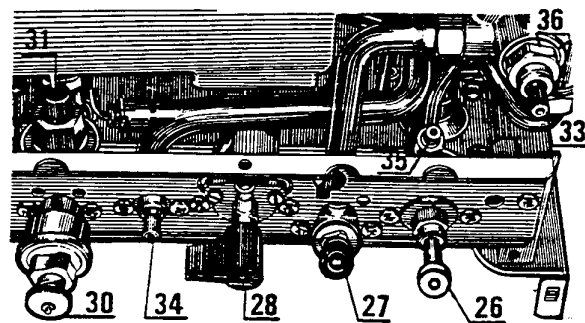

Fig. 16
- Turn off the gas by turning lever (28) (fig. 16).
- The heating flow is fitted with an isolating valve (26) (fig. 16) giving, in the above circumstances the ability to prevent the thermosyphon action in summer.
- Remove the drain screw (33) and (34) (fig. 16 and 17).
- Open the valve on the safety valve (30) (fig. 16 and 17).
- Open the drain plug (35) (fig. 16 or 17).
- Close the drain plug (35) (fig. 16 or 17).
- Close the valve on the safety valve (30) (fig. 16 or 17).
- lose the mains stopcock (27) (fig. 16 or 17).
- inscrew the water regulator (36) (fig. 16 or 17), remove and clean the filter.
- Close the isolating valves on the flow and return to the heating system (26) and (31) (fig. 16 or 17) by pushing in and turning.
- Open the valve of the safety valve (30) (fig. 16 or 17).